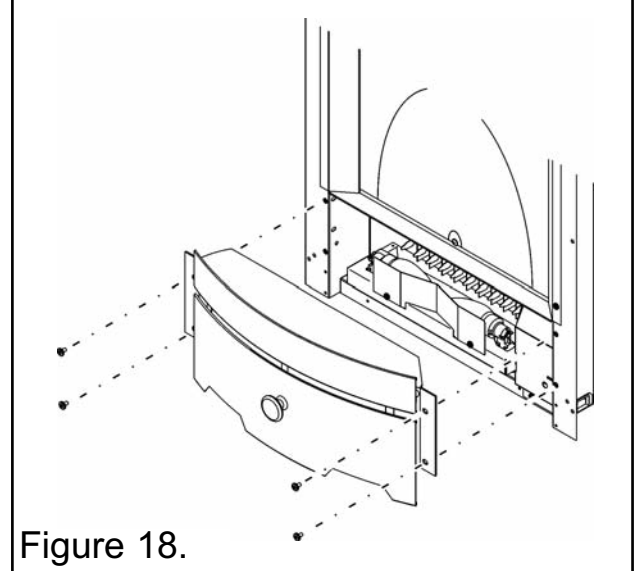

Figure 18.
1. With the fascia trim removed, align the four holes in the firefront assembly with those on the heater (See figure 18). Secure with the four screws supplied.